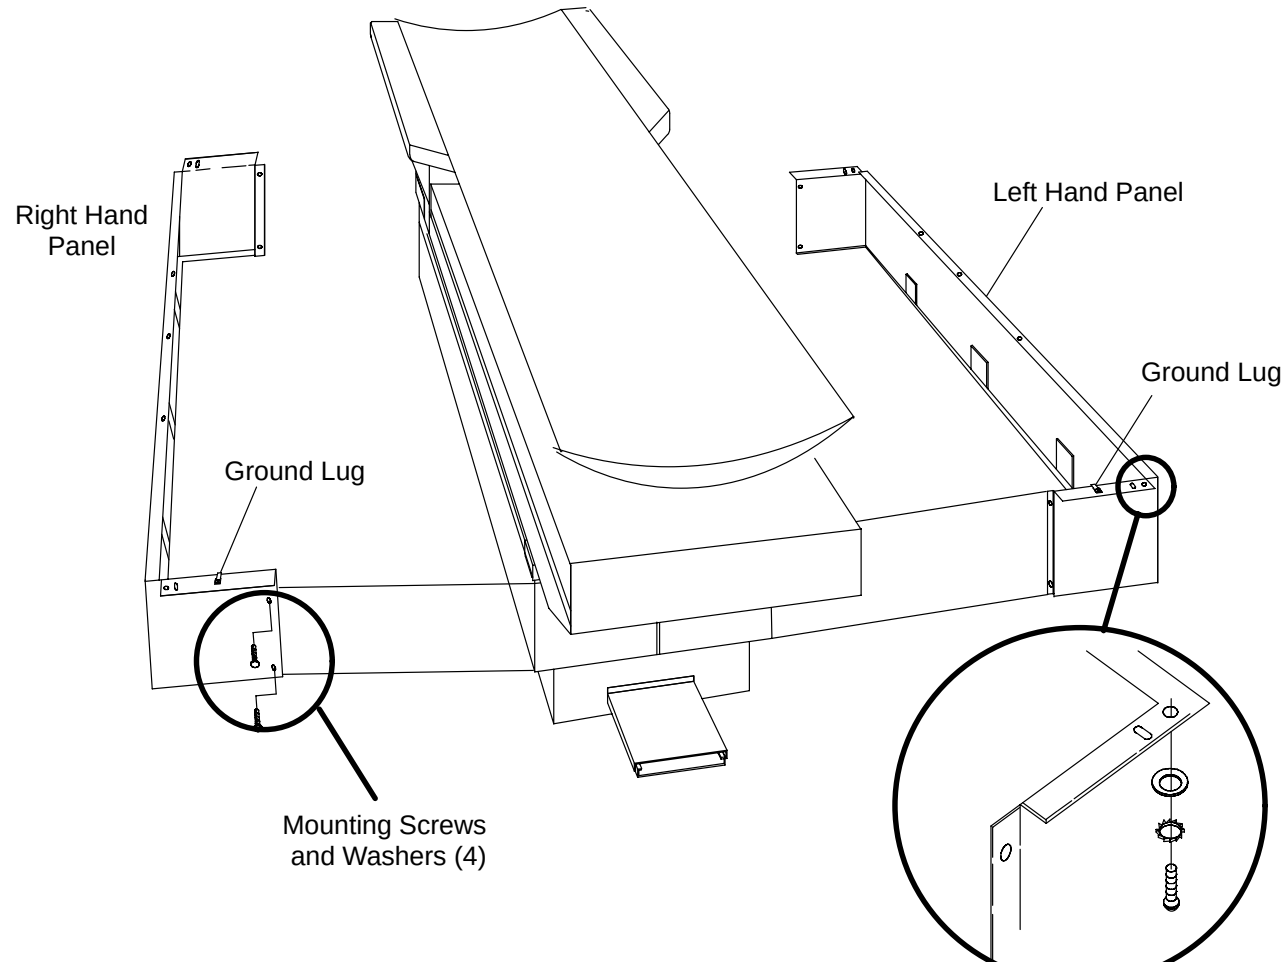

FIGURE 185 PATIENT SUPPORT TELESCOPING BASE COVERS
3. Remove the four screws and Washers that attach the Telescoping Base Cover Panels to the Subframe. Refer to Figure 185.
6. Remove the two screws from both Outer Cover ends (front & rear, 4 total). Refer Figure 185.
11. Remove the four Screws and Washers that attach the Telescoping Base Cover Panels to the Subframe. Refer Figure 185.
12. Remove the two Screws from both ends of the Top Panels (front & rear, 4 total). Figure 185.